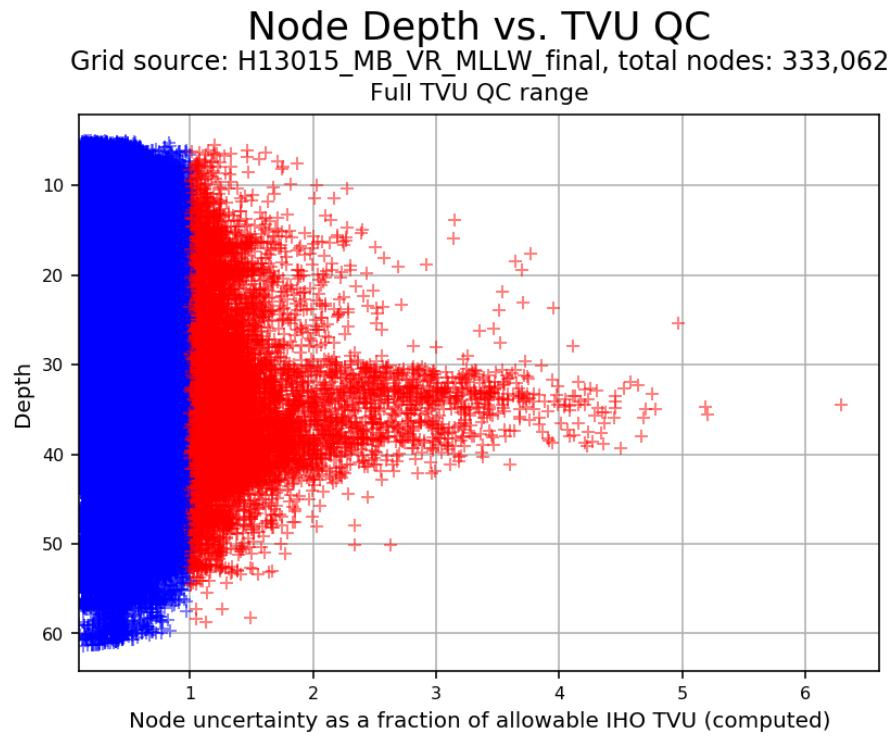

Fig. 2.36: A plot of every node represented in the surface in plotted as its depth on the y axis and its uncertainty as a fraction of the IHO TVU on the x axis.
- Node Depth vs. TVU QC (Fig. 2.36).